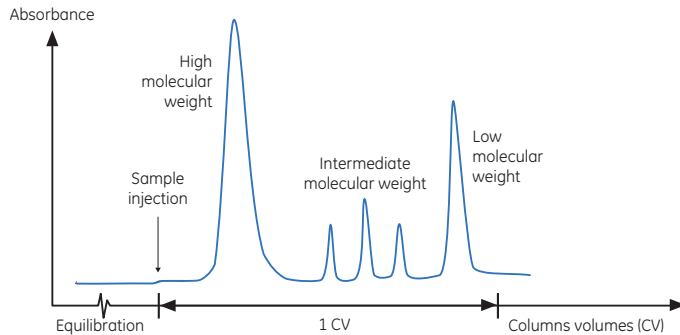

Fig I.3. Typical high-resolution SEC separation.
2. **High-resolution fractionation of biomolecules:** the components of a sample are separated according to differences in their molecular size. High-resolution fractionation can be used to isolate one or more components, to separate monomers from aggregates, or to perform a molecular weight distribution analysis. High-resolution SEC is most suitable for samples that originally contain few components or for samples that have been partially purified by other chromatography techniques; this ensures that most of the unwanted proteins of similar size are eliminated (Fig I.3).